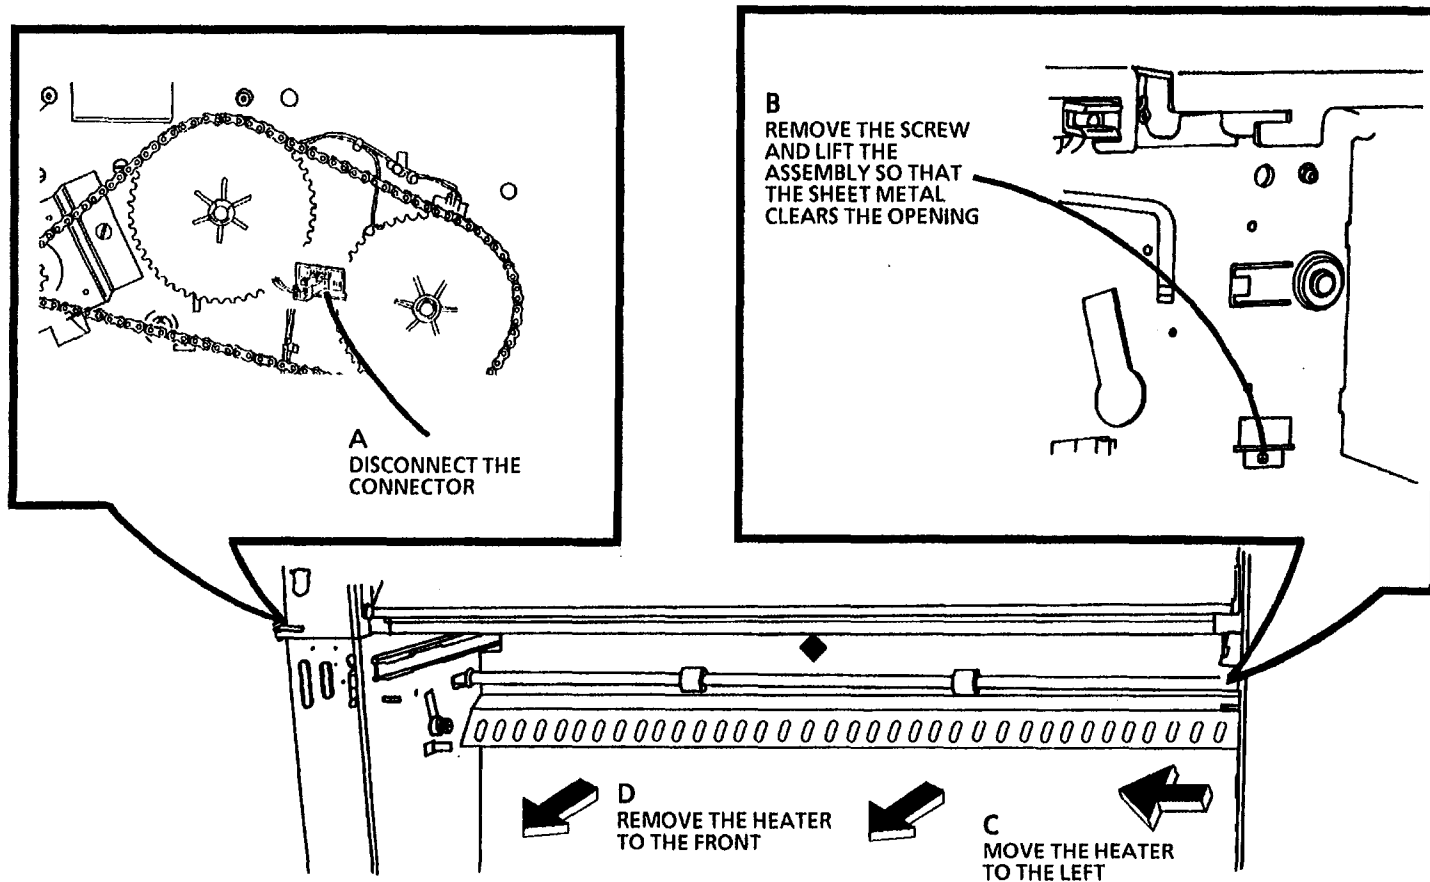

Figure 1. Removing the Media Roll Heater
3. (Figure 1): Remove the Media Roll Heater.